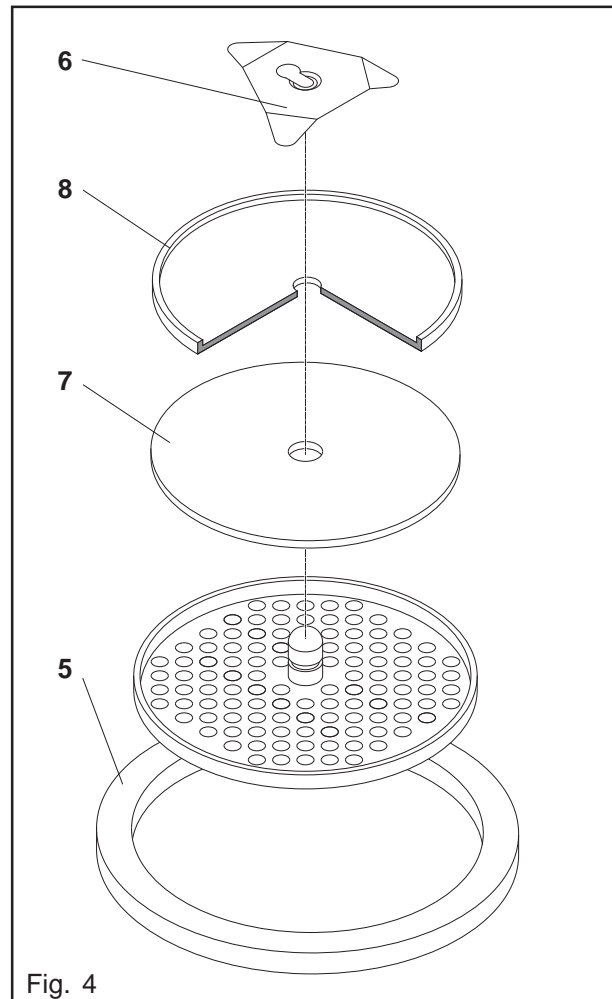

Fig. 4
3. Remove the jack latch (6) from the filter plate. Decalcify all metal parts of the filter plate. (Fig. 4)
5. Install the filter plate in reverse order. Make sure that the locking bolt engages, and that the filter plate is guided by the scraper arms. Make sure that the disc (8) is positioned correctly. (The smooth side must face the sealing). (Fig. 4, 5)